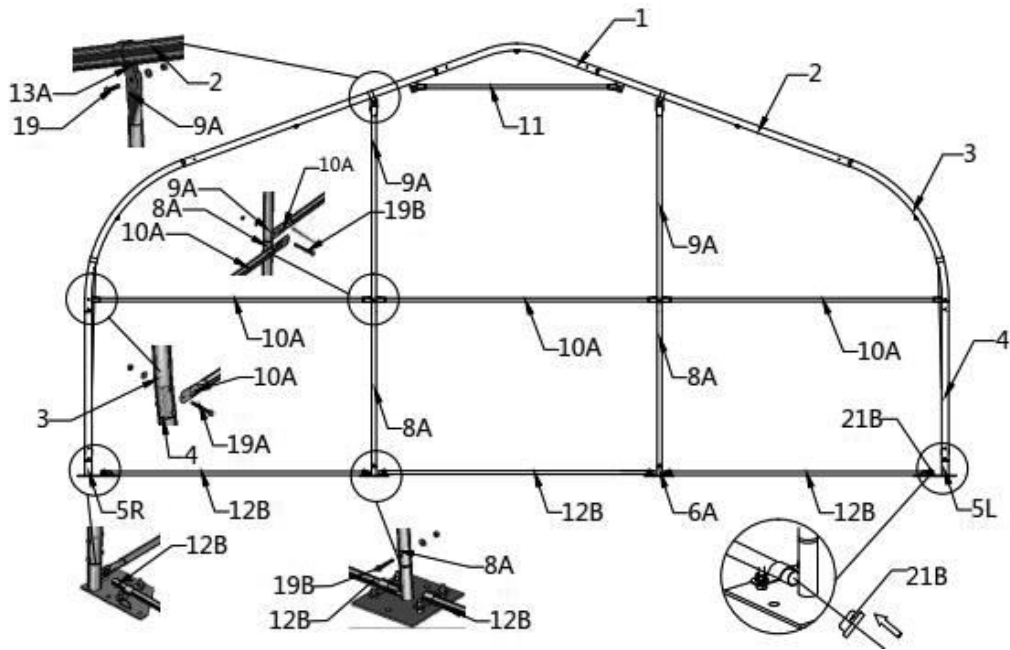

Figure 12
- **Step 7 : Install the remaining parts on the rear truss. (refer to figure 12)**
- (2) Door frame lower tube (#8A)